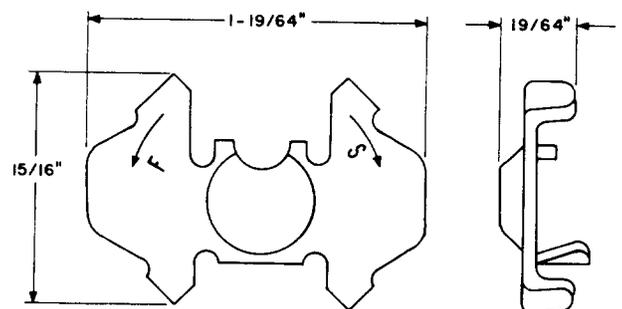

Fig. 2—260 Dial Governor Holder Tool
2.02 260: The 260 dial governor holder tool (Fig. 2) is used in holding rotating parts of 2-, 4-, and 5-type dial governors stationary when adjusting them for speed.